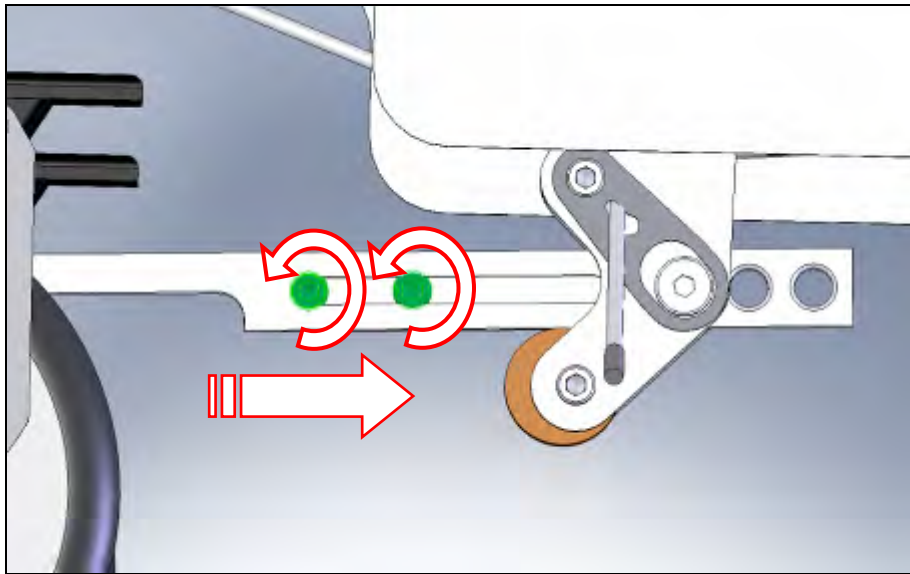

Figure 41
1. Loosen the two socket head cap screws on the docking hook assembly (Figure 41) using a 3/16" Allen key and adjust the hook by sliding it to the shortest position. Tighten one of the screws by hand.